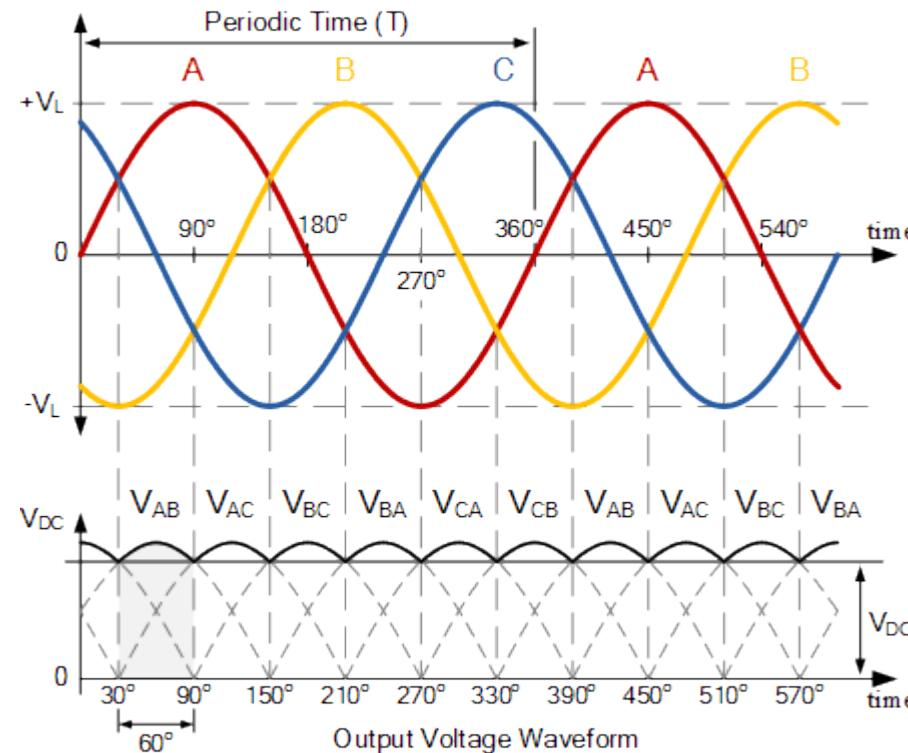

FIGURE 2.35
- The phase and line voltages along with the output (load) voltage, output (load) current, phase A supply current, and diode D₁ current waveforms for a resistive load are shown in Figs. 2.35 & 2.36. It is noted that the shape of the load current waveform is identical to that of the load voltage since the load is resistive.